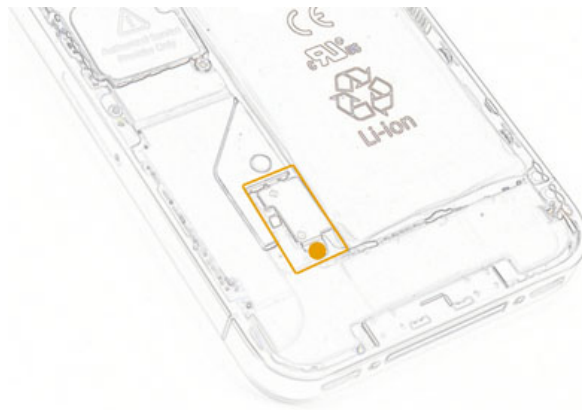

Figure 3
- In order to remove the battery, you will need to remove a Phillips screw first which is there to hold the battery connector in place. Remove the screw using a Phillips screwdriver and then carefully lift up the connector from the motherboard. The location of the connector is shown in figure 3 by the orange rectangle and the position of screw by small circle. Now remove the battery from the unit by pulling up the 'plastic pull tab' and put it aside. The battery is glued in with adhesive and you may have to apply a little bit of force for to lift it up.